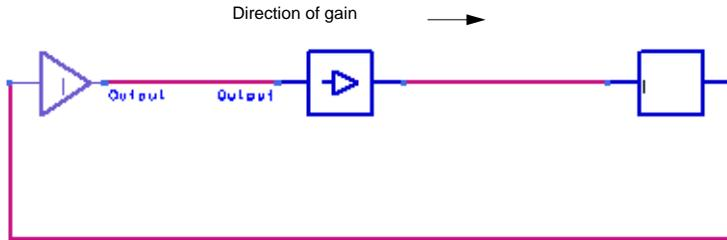

Figure 3-5. Example setup for using the OscTest component
Figure 3-5 illustrates a setup using the *OscTest* component.
- In a feedback oscillator, use the OscTest component to break the feedback path. The arrow (and pin 2) should point in the direction of injection (the direction of the gain). Refer to Figure 3-5.